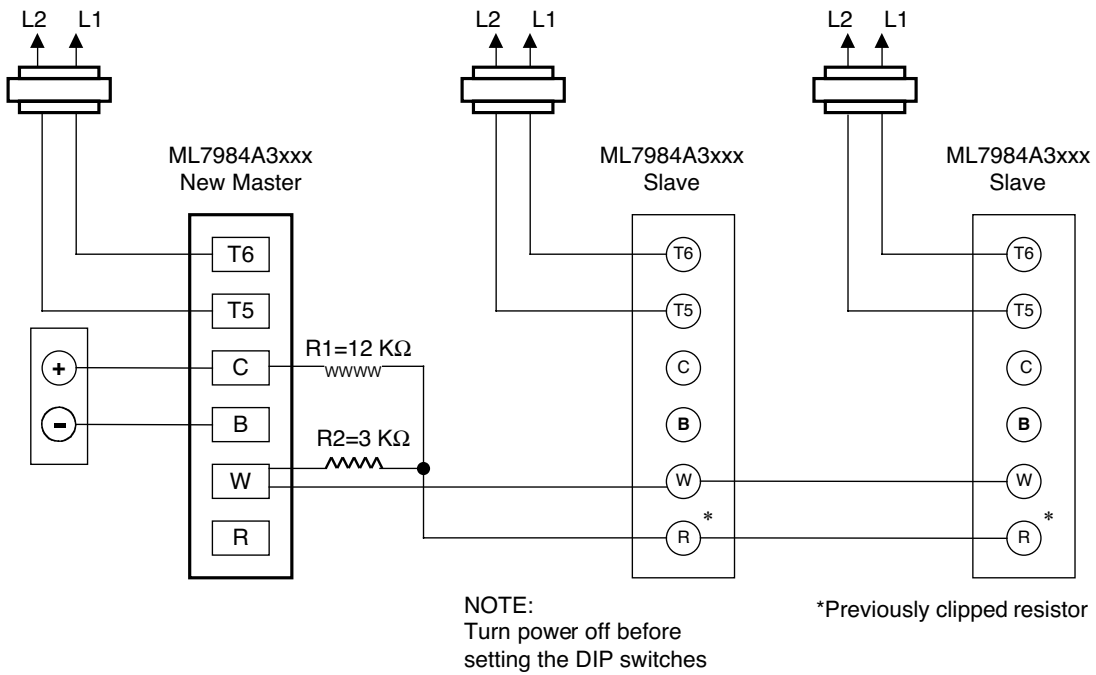

Fig. 12 Wiring for replacing the MASTER motor in 4-20 mA multiple-actuator application. (Use Resistor Kit part # 272822)
- c) When replacing the old ML784 (mA model) in multiple-actuator installations, resistor(s) will be needed. Use Resistor Kit part # 272822 and set DIP switches accordingly. See Figure 12 & 13.